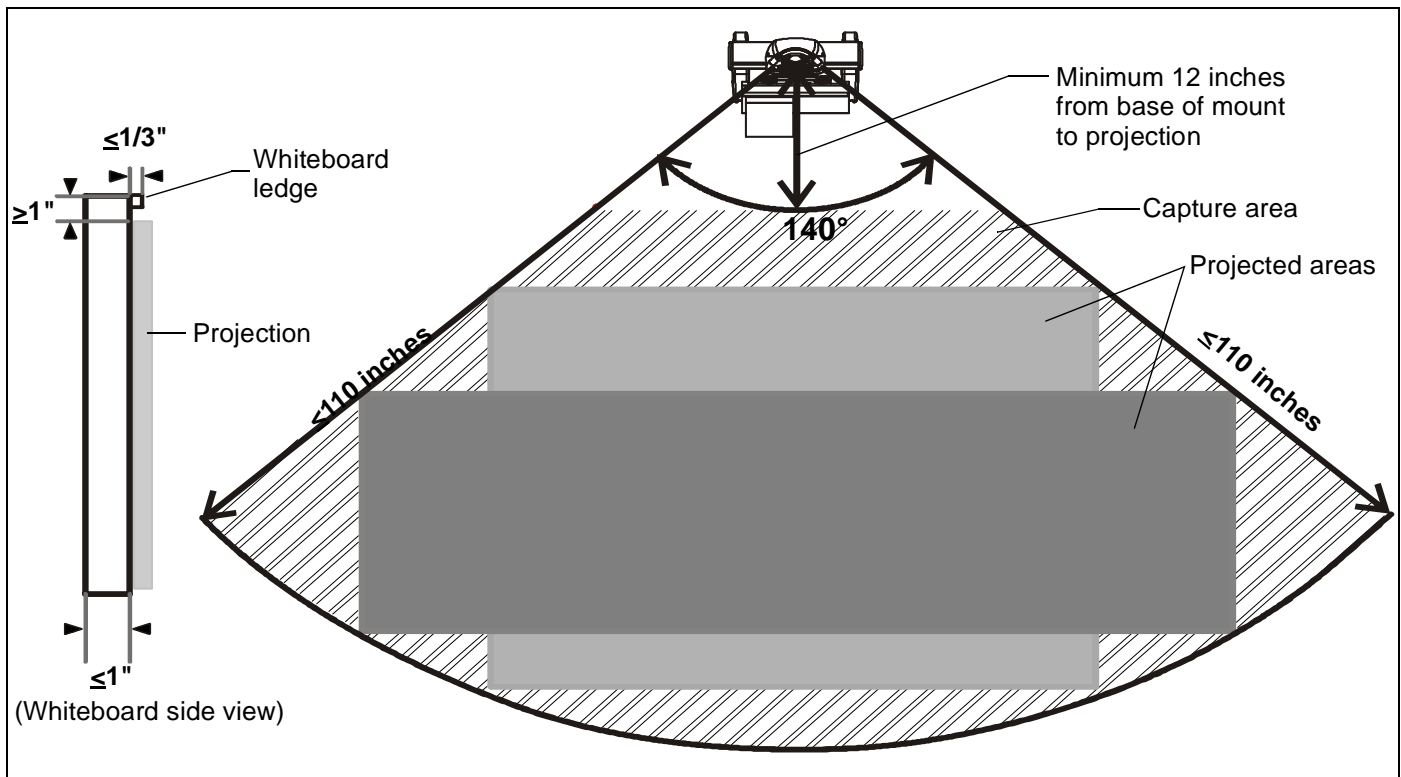

Figure 3
WM2XXSI/WM2XXAUSI Placement and Projection Area Constraints (See Figure 3)
- The whiteboard should not be thicker than 1". (See Figure 3)
- The ledge of the whiteboard frame should be less than or equal to 1/3". (See Figure 3)
- Do not put sticky notes, hanging paper, cables, outlets, or other items below the wall mount or inside the capture area. (See Figure 3)